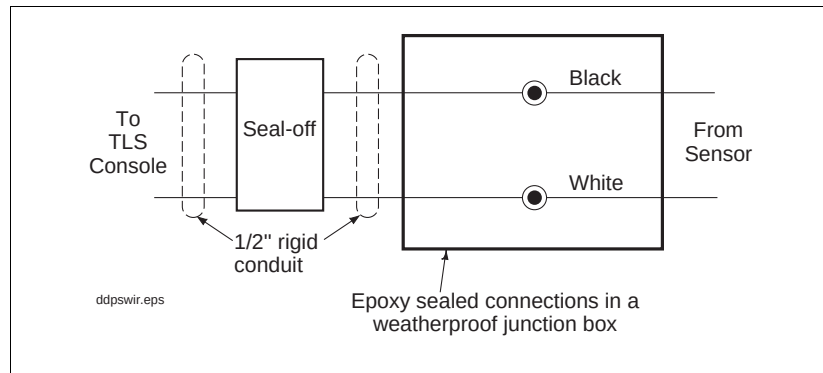
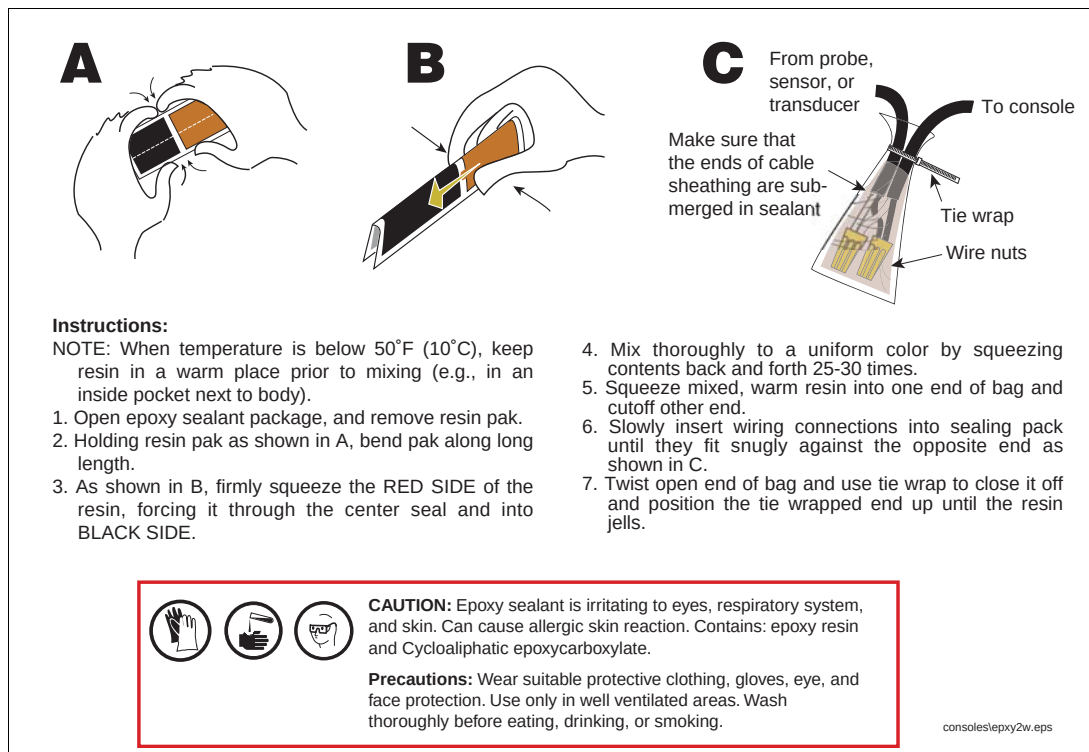

Figure 4. Sensor Wiring Connections (No Polarity)
Figure 5. Epoxy Sealing Two-Wire Connections
4. Using wire nuts, connect the two-wire cable to the field wires from the console as shown in Figure 4. and seal connections in epoxy pack as shown in Figure 5.